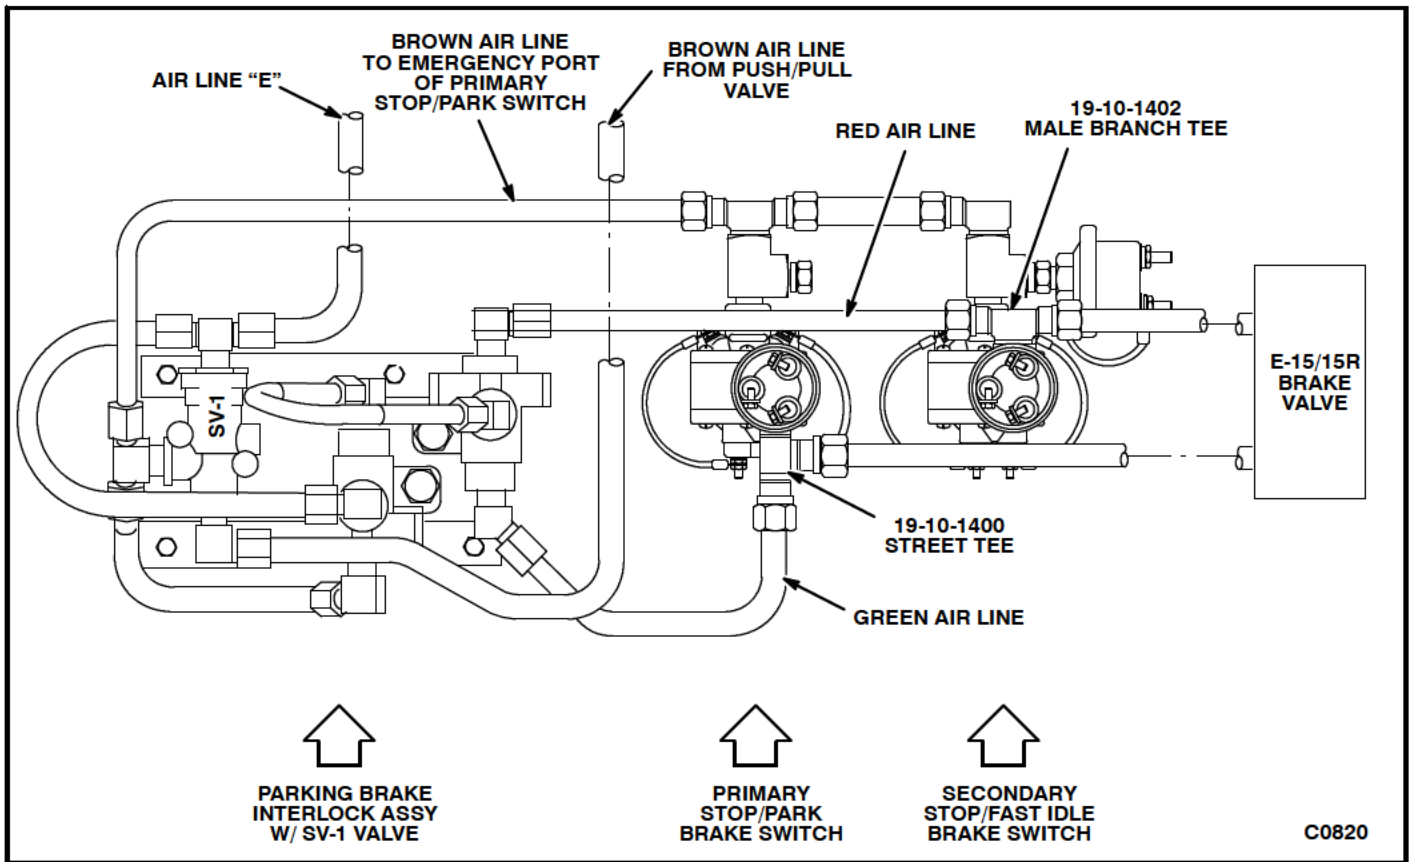
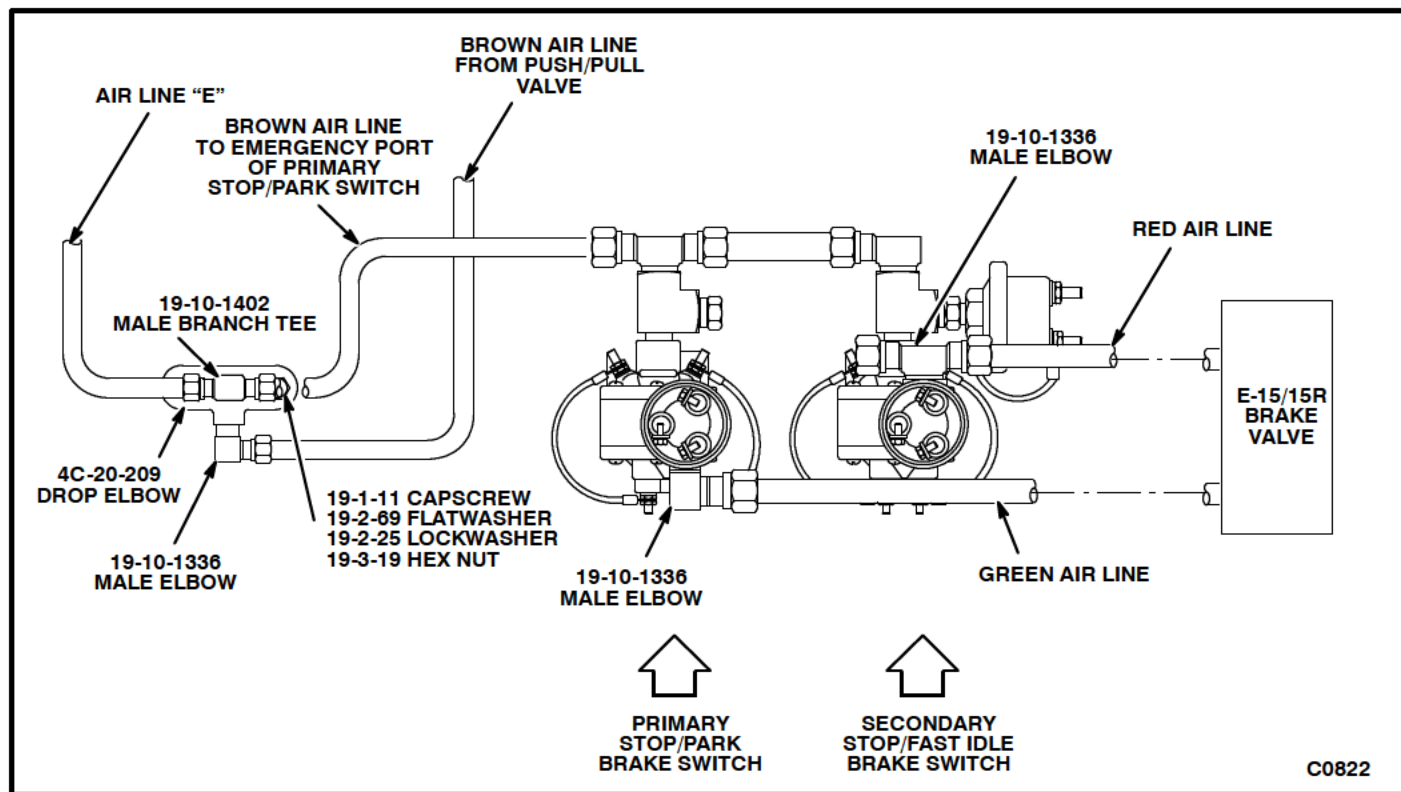

Figure 2. Brake System With E-15/ E-15R Brake Valve and Parking Brake Interlock.
Figure 4. Brake System With E-15/E-15R Brake Valve and Without Parking Brake Interlock.
b) On coaches having an E-15 or E15R brake valve, disconnect the air lines to the 19-10-1400 street tee on the primary stop/park switch assembly and from the 19-10-1402 male branch tee on the secondary stop/fast idle switch assembly (see Figure 2). Replace the tees with 19-10-1336 male elbows (see Figure 4). Connect the red and green airlines running between the switches and the E-15/E-15R brake valve to the newly installed 19-10-1336 elbows (see Figure 4).